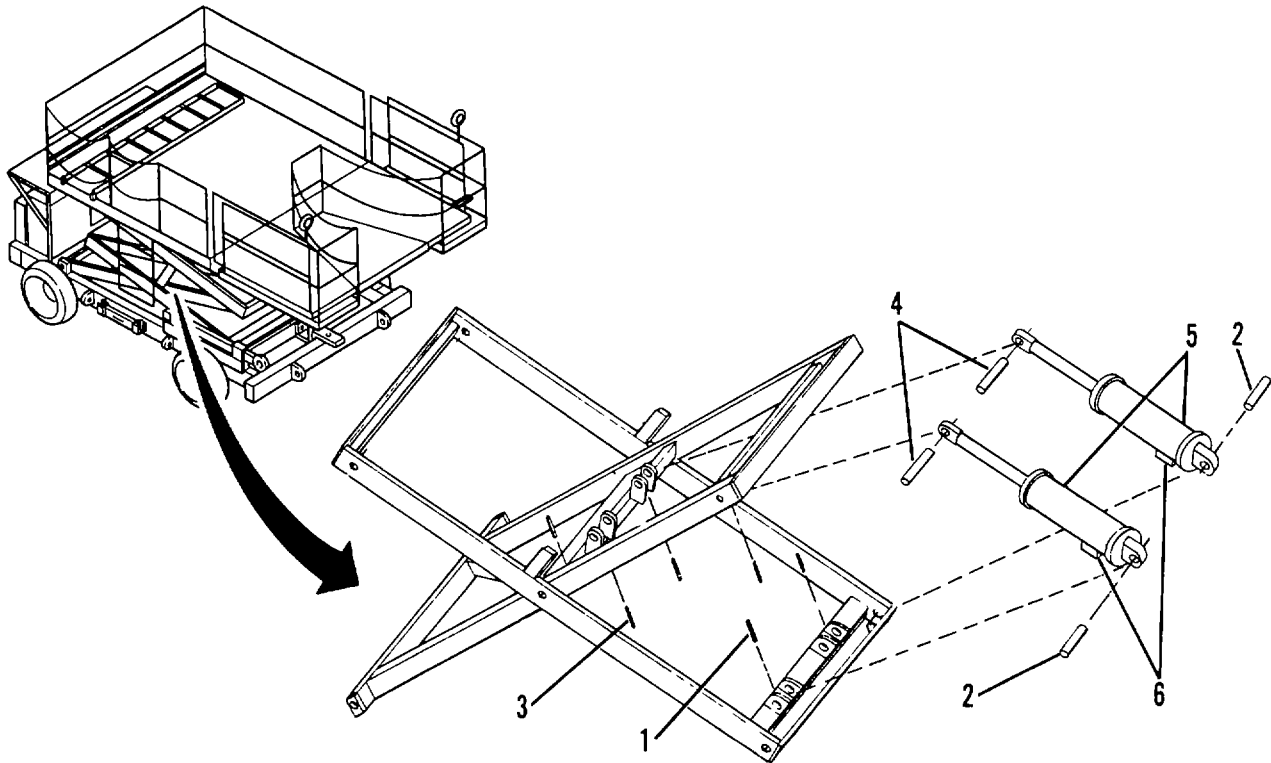

Figure 3-37. Lift Cylinders.
- (7) Remove two roll pins (1, Figure 3-37) from the cylinder end retaining pins (2).
- (8) Remove two roll pins (3) from the rod end retaining pins (4).